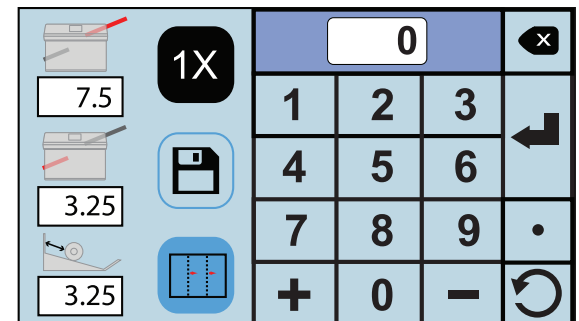

Fig. 41
4. Follow the same procedures as the custom fold settings to adjust the folds (Fig. 41). Press the Test icon  to confirm the change is correct. If the settings are good press the Save Icon  to save the new settings. A save confirmation will be displayed.